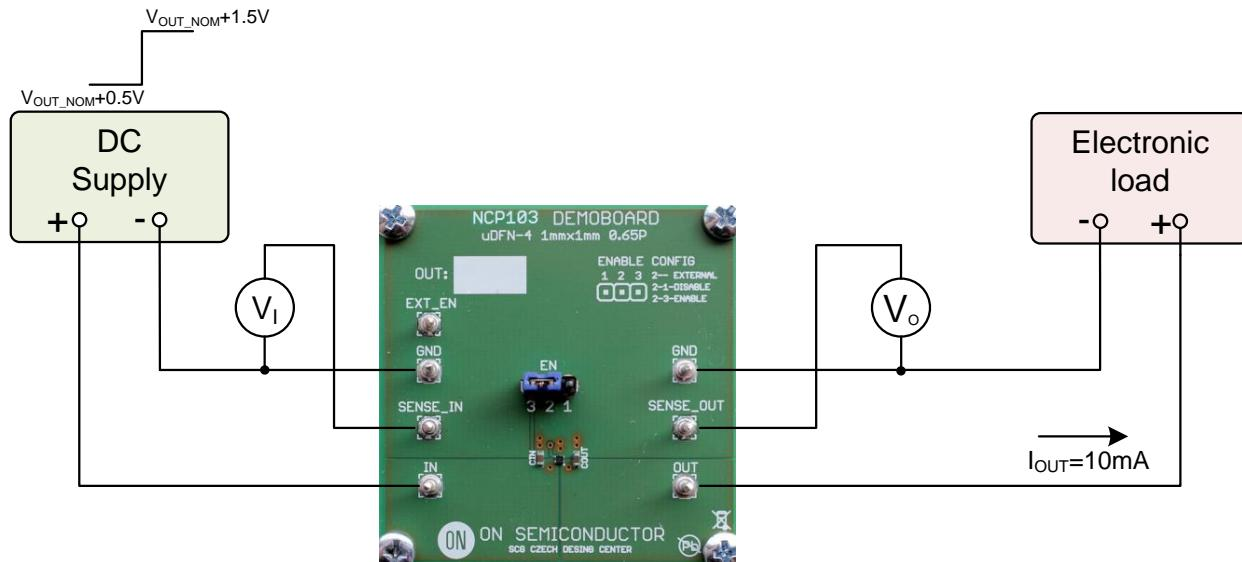

Figure 3: Test configuration for measurement  $\text{REG}_{\text{LINE}}$ , Line Regulation
1. Connect circuit as shown on figure 3